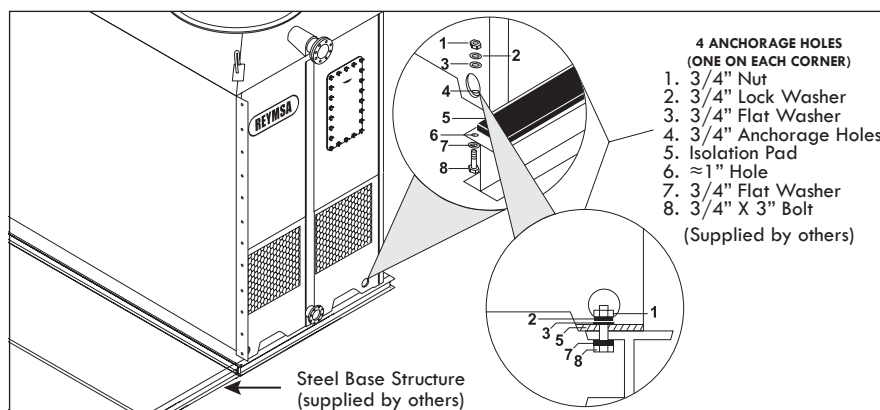
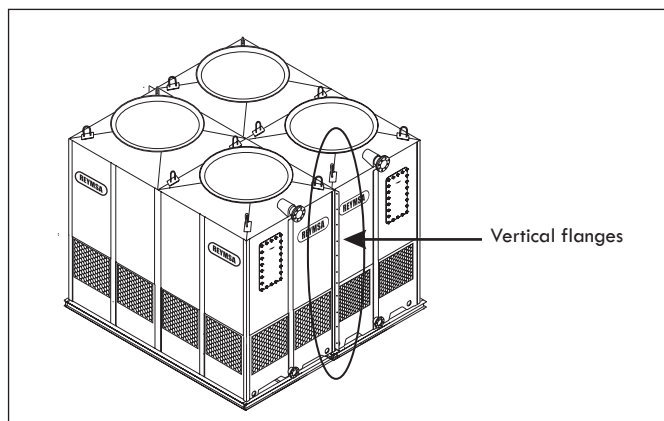

Figure A-43: Typical anchorage for a Quadruple Fan Tower
Figure A-44: Body section 2 installation for a Quadruple Fan Tower
- G. Place the Section #1 (unitized body & basin) of the Tower on top of the isolation pad and the base structure; Secure it with the stainless steel nut and bolt sets (supplied by others) as shown on Figure A-43.
- H. Place Section #2 (unitized body & basin) on top of the isolation pad and the base structure, and then proceeds to bolt together the vertical flanges of Sections 1 & 2; use first the galvanized bolts and nuts to join sections (supplied by REYMSA). Then replace the galvanized bolts with the stainless steel nut and bolt sets supplied by REYMSA (see Figure A-44). Then bolt down and secure Tower Section #2 to the structural base with stainless steel nut and bolt sets (supplied by others) as shown on Figure A-43.